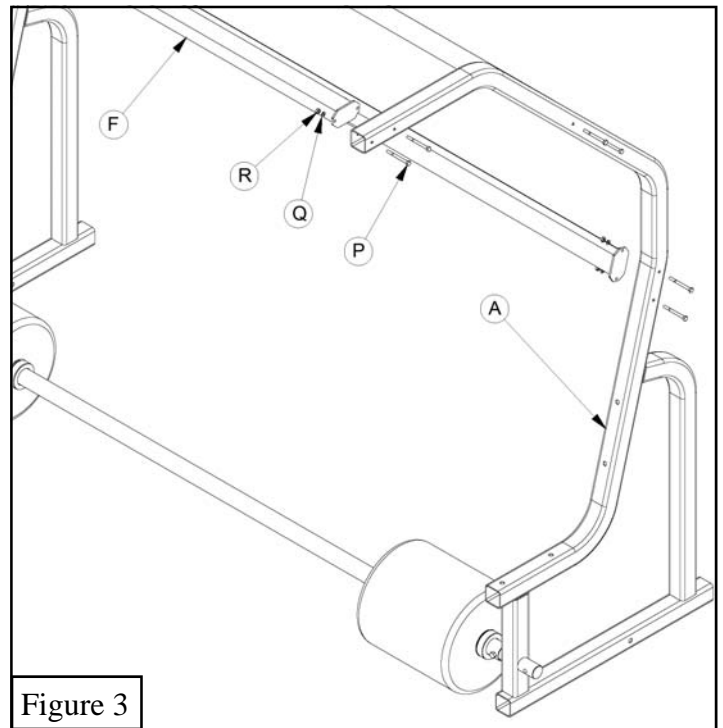

Figure 3
4. Use $1/4''$ X $2\ 3/4''$ Hex Bolts (P), $1/4''$ Lock Washers (Q) and $1/4''$ Hex Nuts (R) to attach three Horizontal Braces (F) between each set of Leg Assemblies (A). See Figure 3.